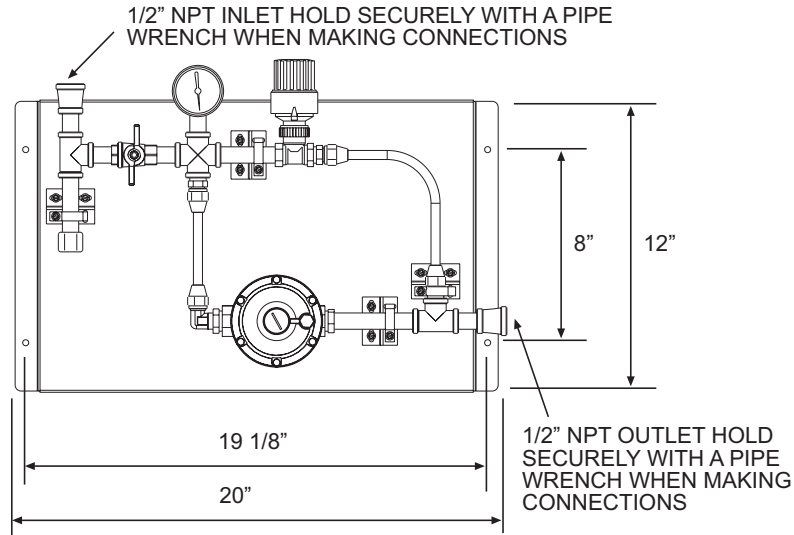

FIGURE 1
4. Gas connections to the control panel are shown in figure 1 above.